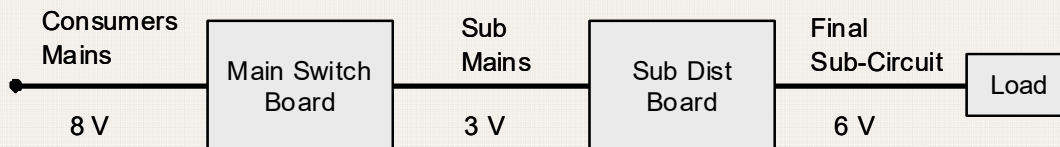

figure 10.
- Figure 10 is a 400 V three phase installation. Determine the total conductor voltage drop.
- Does the circuit of figure 10 comply with Australian standards (yes/No) why?